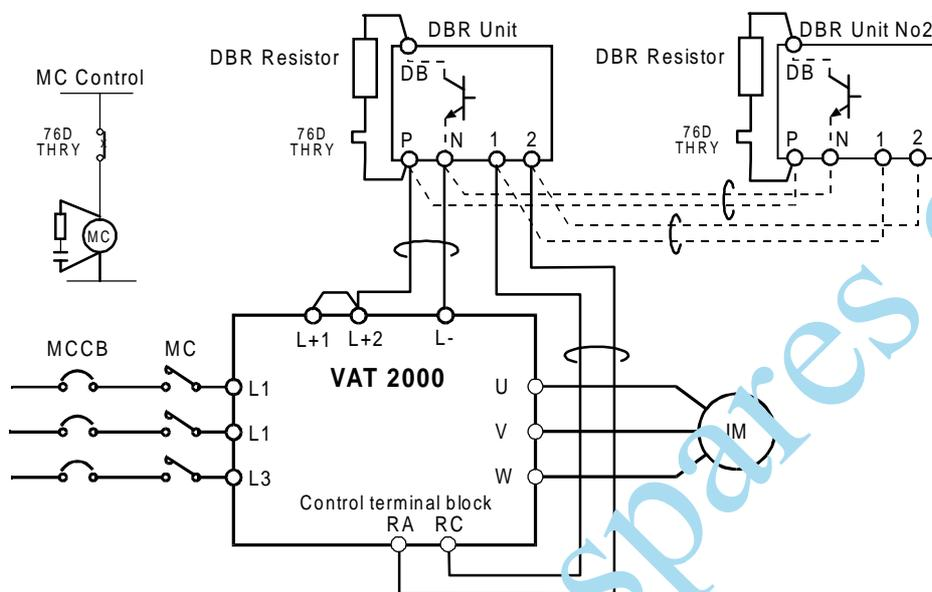
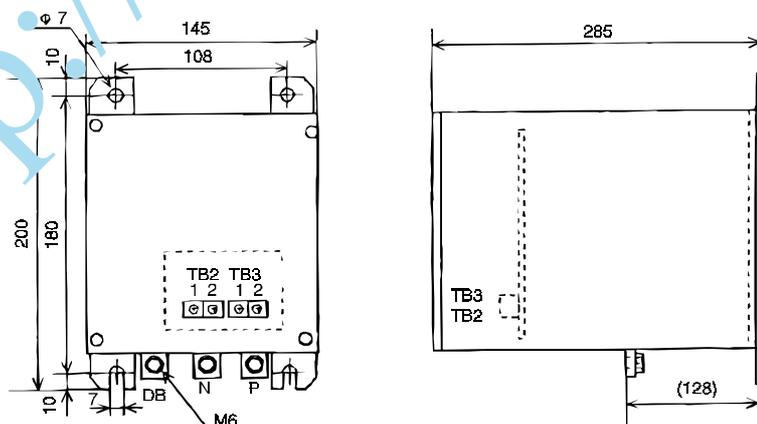

Fig 7-5
Fig 7-2
1. When carrying out dynamic braking with the a VAT2000 larger than U2KX55K0S, connect the Braking module UADOPTDBUHO as shown in Fig 7-5. This module should be used at 10% ED or less as shown in Fig 7-2. One or two units in parallel can be used.